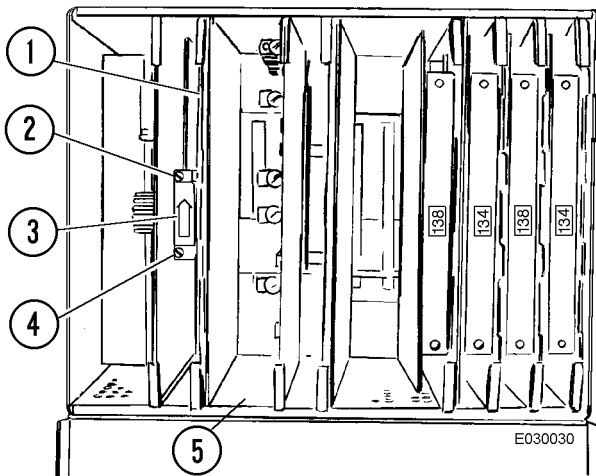

FIGURE 3-2. BATTERY LOCATION
13. Connect a VOM across the screws securing the green plate on the edge of the PSC CPU card in the ICP panel. Connect the positive lead to top screw (2, Figure 3-2) and the negative lead to bottom screw (4).
14. Connect a VOM across the screws securing the green plate on the edge of the TCI CPU card in the TCI panel. Connect the positive lead to top screw (2) and the negative lead to bottom screw (4).